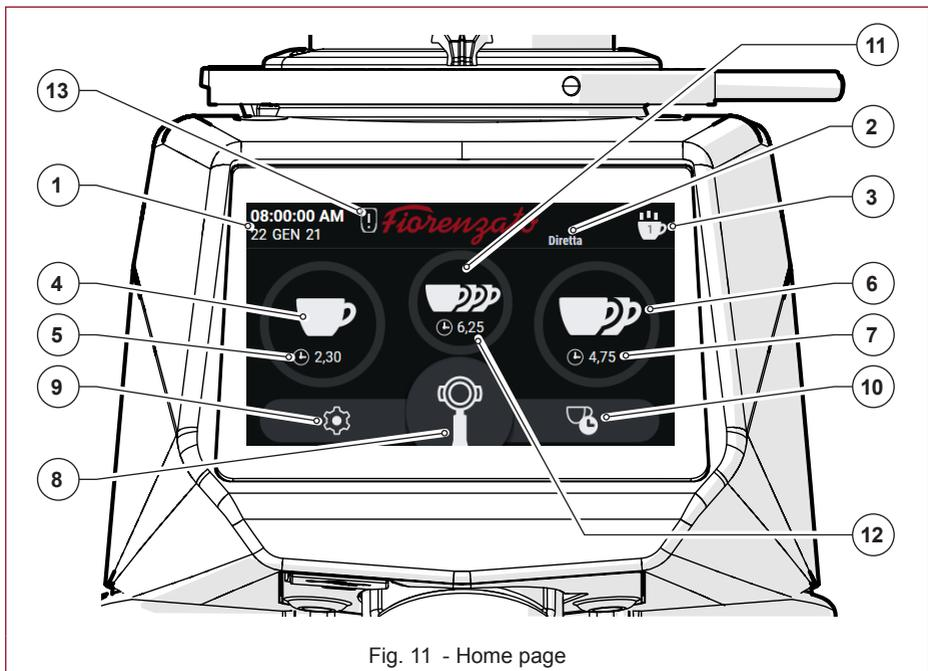

Fig. 11 - Home page
Fig. 11 shows the HOME page with a description of the function buttons and display fields. The HOME page can be customised from the 'Settings menu', therefore the image shown in the figure below may differ from the screen actually displayed on your appliance when it is first switched on.
With reference to Fig. 11, the display fields and function buttons on the HOME page are:
The Settings menu is accessed by pressing the function button , always visible in the bottom left-hand corner of the display (see Fig. 11 Part. 9). Once the command has been given, the display will load the menu, allowing you to select the parameter to be changed and/or the function to be activated/deactivated by simply scrolling down the list of possible options until you find the option you require. The Settings menu contains the following items:
Select the dose required (single, double or triple dose, if enabled) by pressing the relevant function button (see Fig. 11 Part. 4, 6 or 11). The icon of the pressed button starts flashing to indicate that the selection has been made.
Press and hold the **'Manual Grinding'** button (see Fig. 11 Part. 8) to start continuous grinding. The grinding process stops automatically when the button is released.
Press the function button for a single, double or triple dose (see Fig. 11 Part. 4, 6 or 11); after the command has been given, the grinding of the required dose is started immediately.
In this operating mode, the activation microswitch is disabled and all the dose selection buttons (see Fig. 11 Part. 4, 6, 8 and 11) can be activated.
In this operating mode, manual grinding (see Fig. 11 Part. 8) and the single, double and triple dose selection buttons (see Fig. 11 Part. 4, 6 and 11) are disabled.
Select the required dose (single, double or triple, if enabled) by pressing the relevant function button (see Fig. 11 Part. 4, 6 or 11). When the selection has been made, the icon of the pressed button starts to flash to indicate that the selection has been made and remains activated until a different dose is selected. Press the activation microswitch with the filter holder cup (once) to start grinding the selected dose.
In this operating mode, manual grinding also (see Fig. 11 Part. 8) remains enabled.
- At the end of each dispensing process, the statistics counters are updated (see Fig. 11 Part. 3). In the statistics, the continuing grinding process (see Fig. 11 Part. 8) corresponds to an increase of one single unit in the number of dispensing processes. The grinding cycles are stored in the memory even if the 'Show statistics' option is disabled in the Technical Settings menu.
When manual grinding (Fig. 11 Part. 8) is disabled, the relevant function button cannot be selected and is displayed in grey.
It enables (  ) or disables (  ) the 'Statistics' function button display on the HOME screen (see Fig. 11 Part. 3).